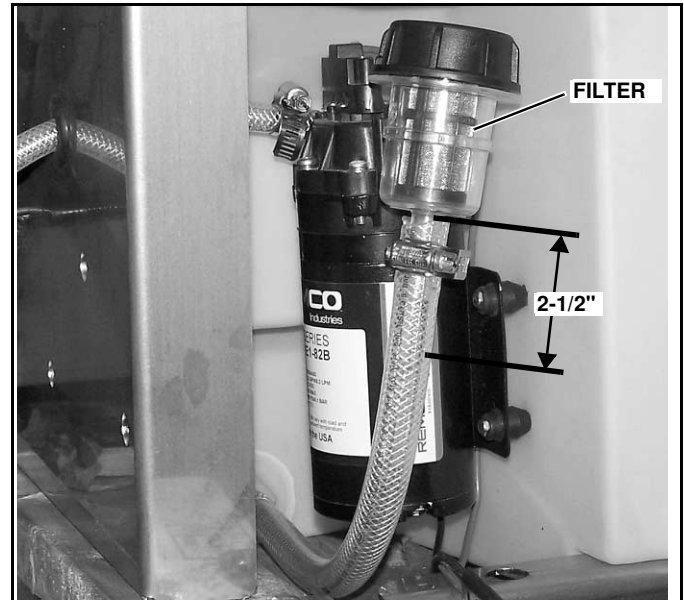

Figure 1-6
2. Cut the Pump Supply Hose 2-1/2" from the filter. (See Figure 1-6)